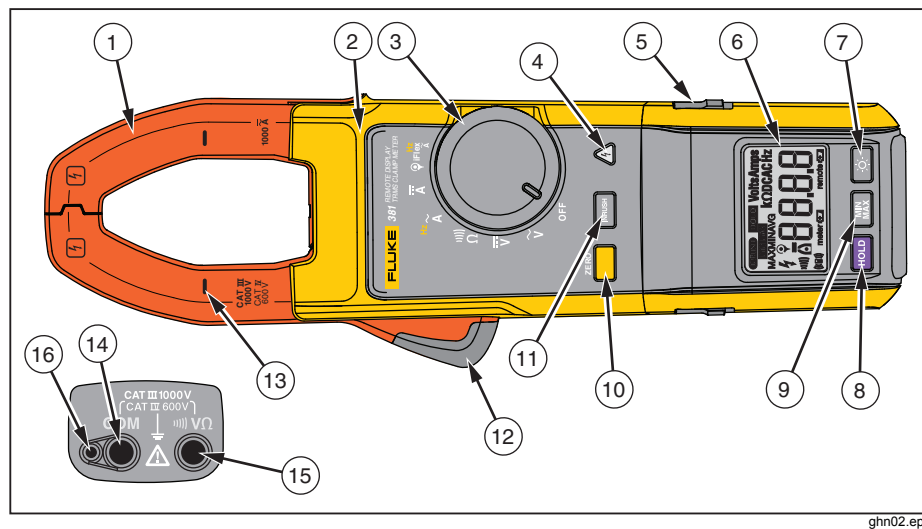

Figure 2. Meter Features
- When measuring, keep fingers behind the Tactile Barrier. See Figure 2.
The following sections explain the Meter features in detail. See Figure 2 and Table 2.
- **Keep fingers behind Tactile Barrier. See Figure 2 and Table 2.**